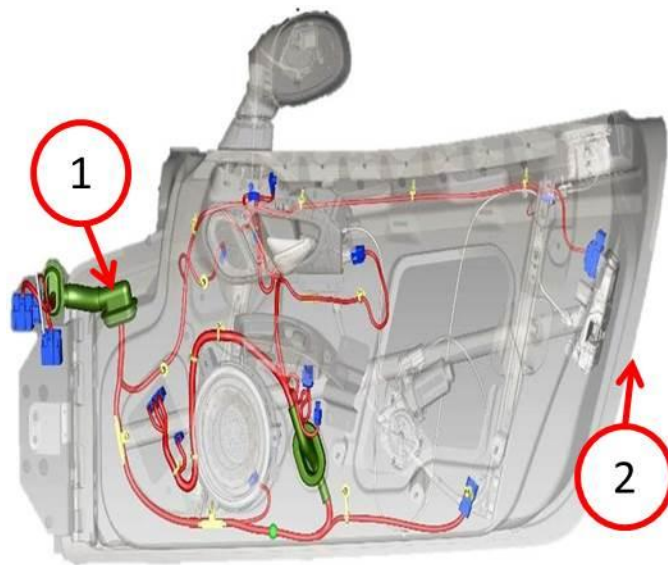

Fig. 1 Door Harness
6. Remove door harness from door (Fig. 1).